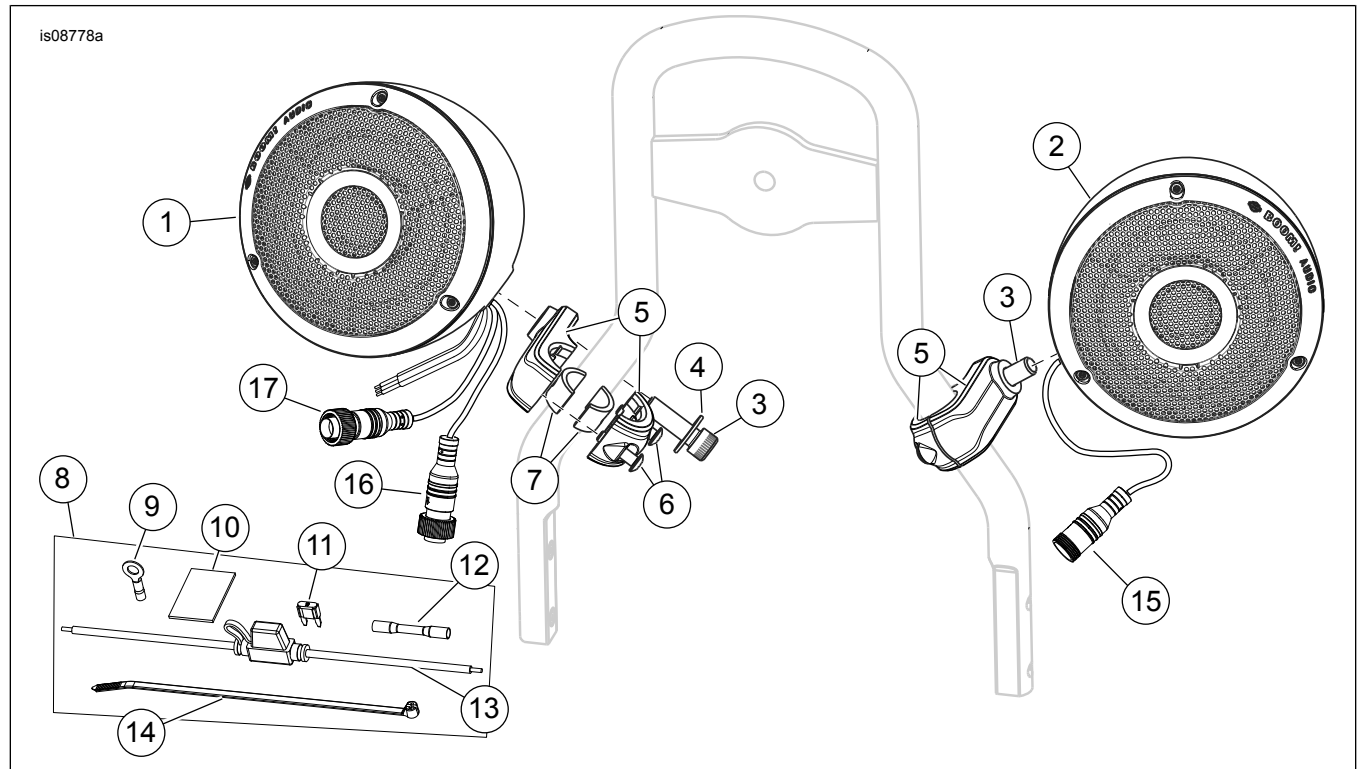

Figure 1. Service Parts, Upright-Mounted Speaker Kits
See Figure 1 and Table 1.
- See Figure 1. The speaker pod (1) with **three** electrical connectors mounts on the **right** side of upright. The speaker pod (2) with **one** electrical connector mounts on the **left** side of upright.
- Figure 1. Small round uprights need spacers (7) and clamps (5). Square uprights use clamps (5). There are square cutouts in the clamps. Large round uprights use clamps (5).